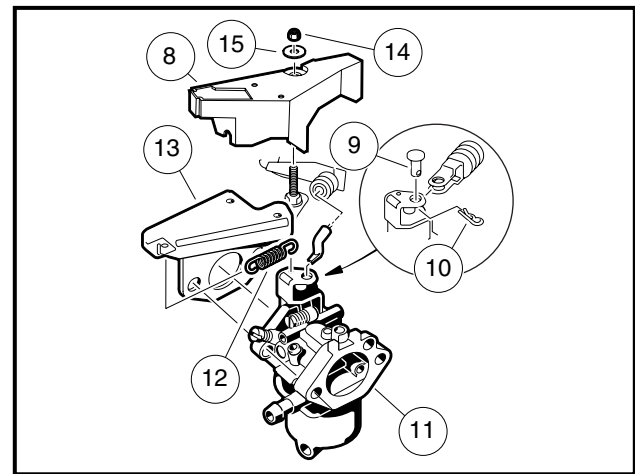

Figure 2-38 Governor Cable Connection
- 5.7. Tighten muffler clamp (6) to 40 in-lb (4.5 N·m).
6. Install carburetor (11), throttle spring (12) and throttle spring bracket (13). Tighten to 50 in-lb (5.6 N·m) (**Figure 2-38, Page 2-20**).
8.1. Install governor cable clevis pin (9) through cable clevis and throttle valve lever and install a new cotter pin (10) (Figure 2-38, Page 2-20).
9.1. Install 'Z' shaped cable end into carburetor throttle valve lever (Figure 2-38, Page 2-20).
10. Install the governor guard (8), flat washer (15), and nylon locknut (14). Tighten to 30 in-lb (3.4 N·m) (Figure 2-38, Page 2-20).